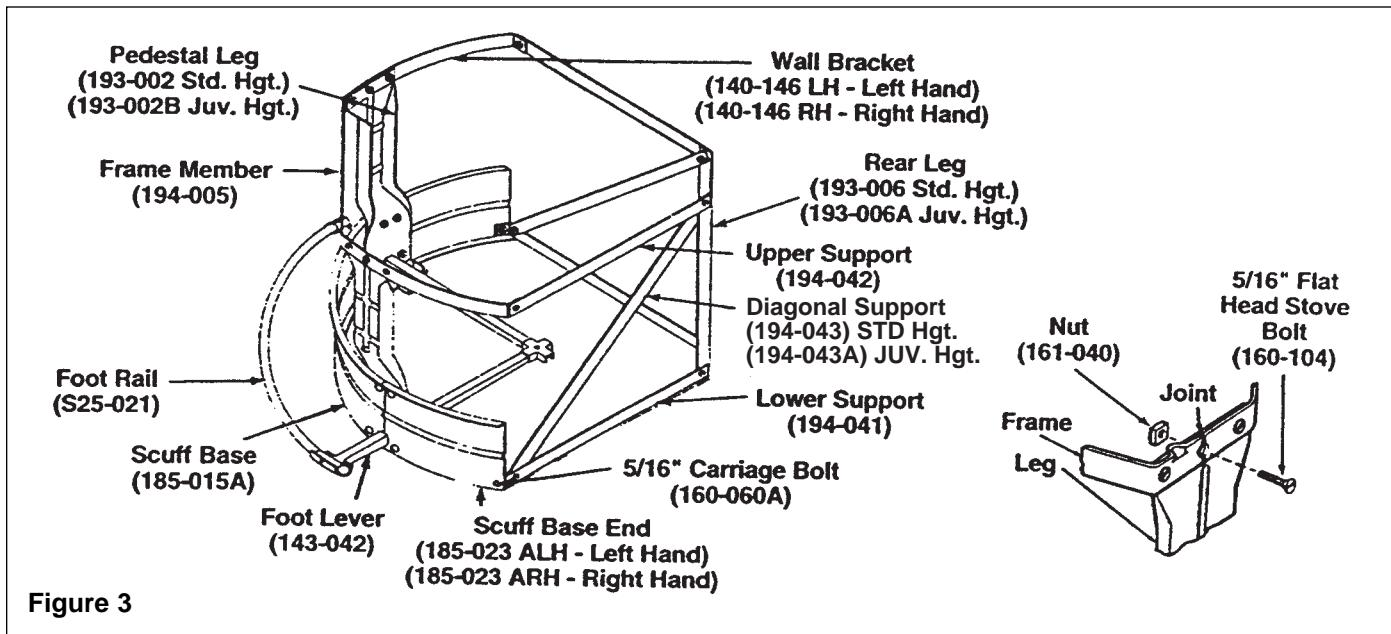

Figure 3
1. Assemble the legs and scuff base panels with the 5/16" carriage bolts and nuts provided (see Figure 3).
2. Attach the pedestal frame members, the rear support members and the rear legs with the 5/16" stove bolts and nuts provided (see Figure 3).
3. Add the foot levers and operating cross to the pedestal assembly (see Figures 3 and 4).
4. Attach the spacers, foot rail and spring pins to the foot valve levers (the bend in the center of the foot rail must be pointing up) (see Figures 3 and 5).